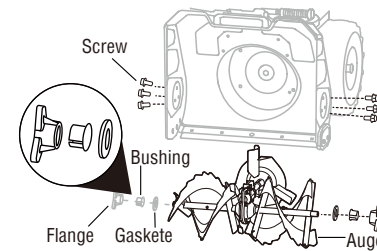

Fig.17A
1. Remove the three screws on both left and right of the auger housing (Fig.17A).
2. Remove the auger, together with the gearbox as a whole set from the housing. Then remove the flange, bushing, and gasket from the auger shaft (Fig.17A).